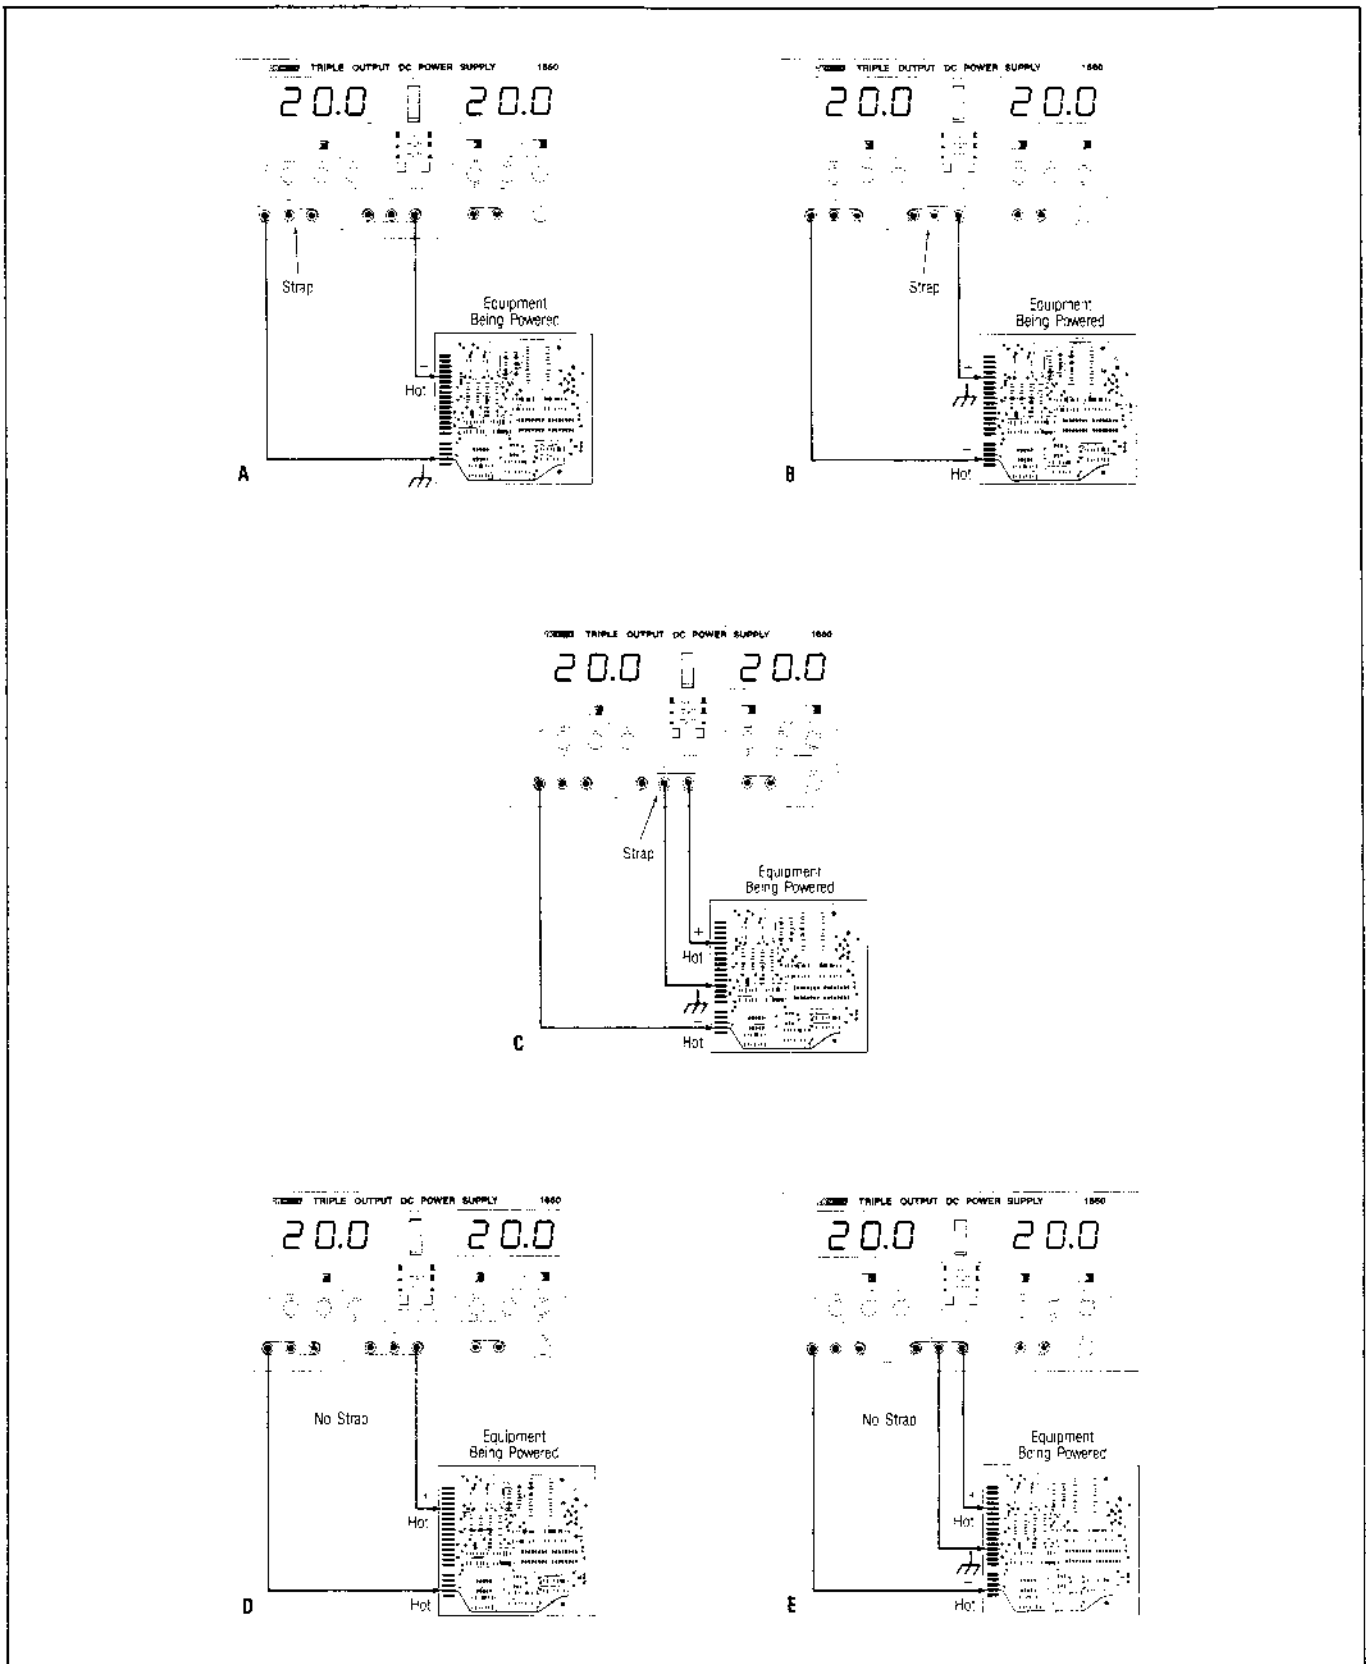

Fig. 8. Series Tracking (0-to-60 V) Operation Grounding Possibilities.
8. Fig. 8 illustrates the grounding possibilities when the unit is used as a 0-to-60 volt supply.